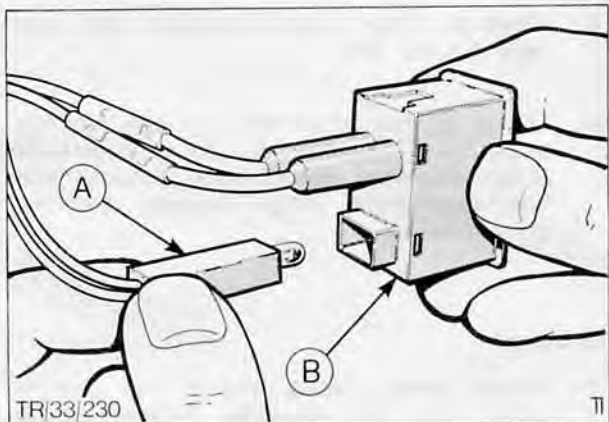

Fig. 53. Removing bulb and holder
4. Detach multi-plug and bulb and remove switch. Unplug bulb, Fig. 53.
6. Insert bulb holder into switch body, Fig. 53, connect loom connectors to rear of switch.
5. Carefully prise bulb holder and bulb from rear of switch, Fig. 53. Pull bulb out of socket.